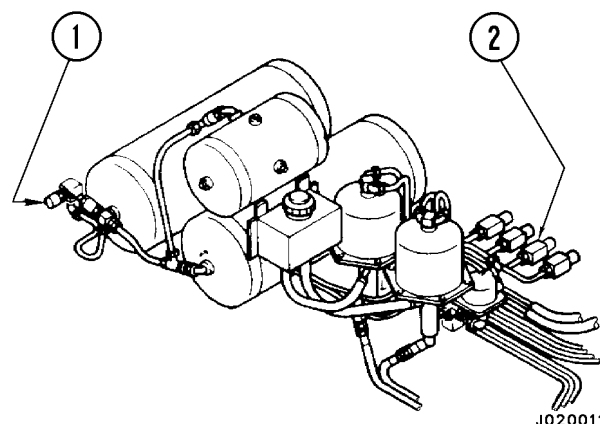

FIGURE 3-2. RELEASING EMERGENCY BRAKE
1. After making preparations to tow the machine, pull rings (2, Figure 3-2) on the 4 drain valves on the air tank.